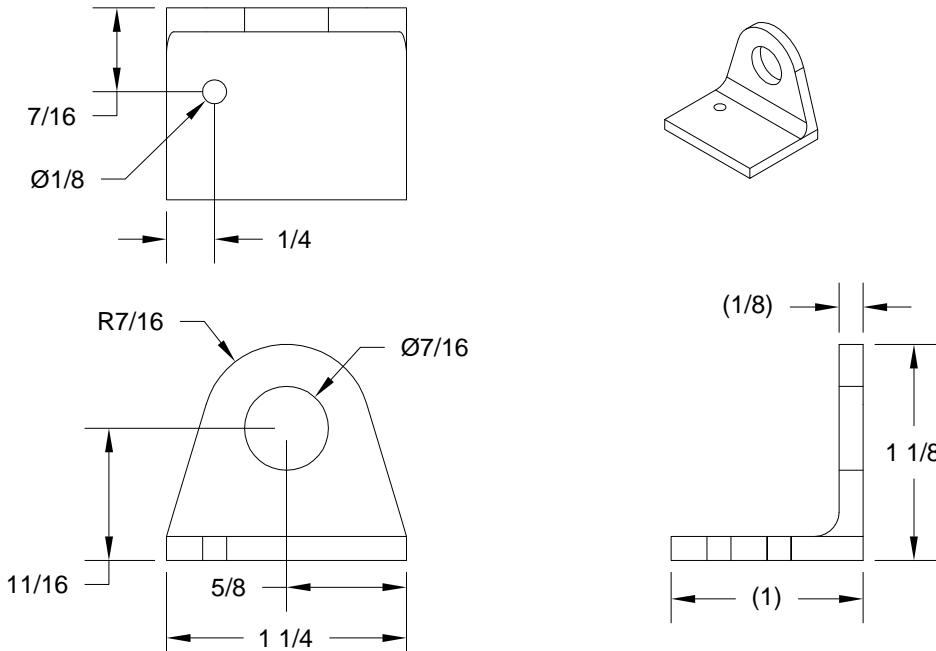

FIGURE 2:
Step 2: Fabricate two F-1095G Trim Cable Anchor Brackets from AA6-125X1X1 1/4 Aluminum Angle as shown in Figure 2.